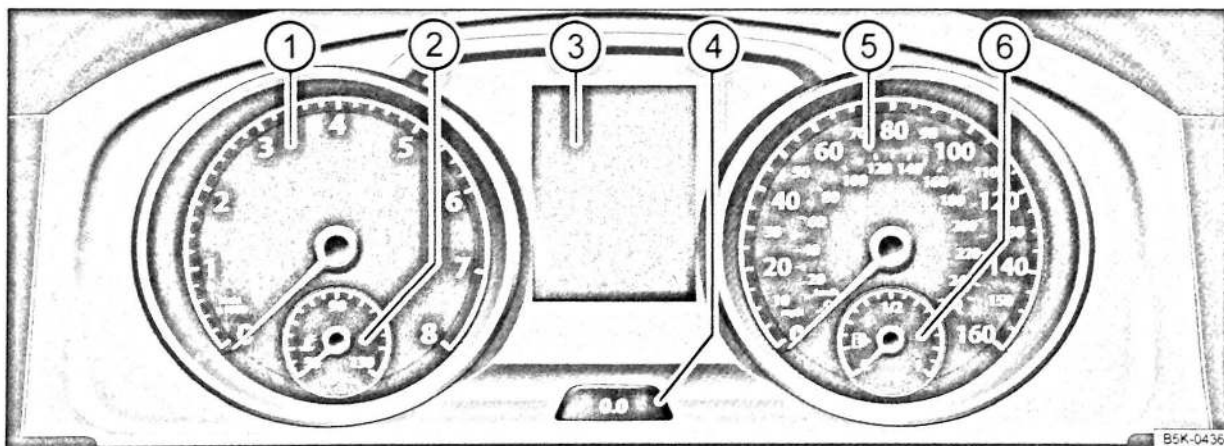

Fig. 12 Instrument cluster in the dash panel
Descriptions of the instruments ⇒ Fig. 12:
Depending on the vehicle equipment level, a variety of information can be displayed in the instrument cluster ⇒ Fig. 12 ③:
- Press button ⇒ Fig. 12 briefly to reset the trip recorder to 0.
- To set the time, press and hold button ⇒ Fig. 12 while the doors are closed until the word **Time** appears in the display.
To display the charge level, press and hold button ⇒ Fig. 12  with the ignition switched off until SOC appears in the display.
Press and hold button ⇒ Fig. 12  (for approximately 15 seconds) to show the vehicle's engine code in the display. The ignition should be switched on but the engine should not be running.